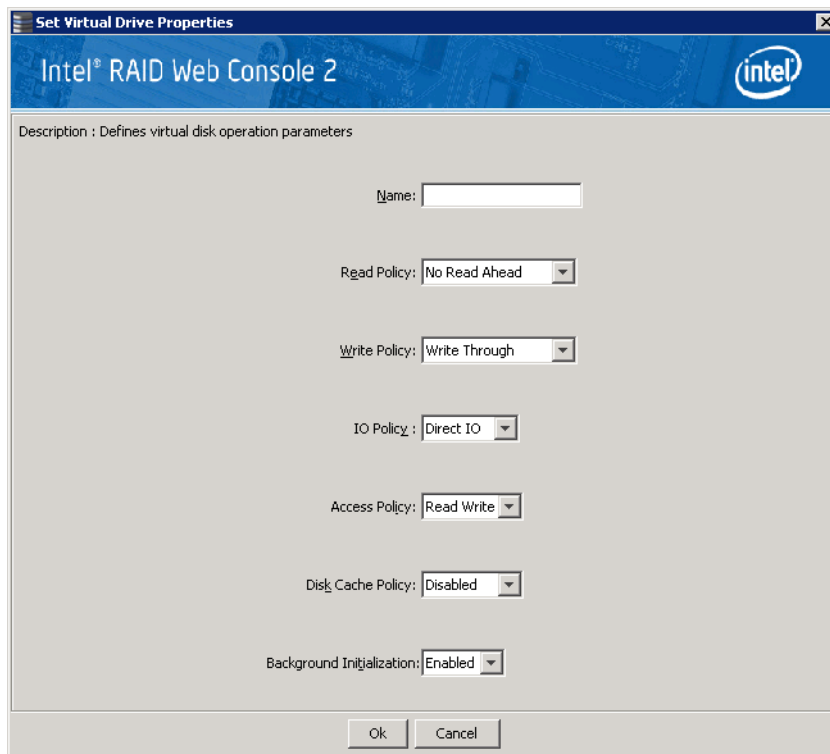

Figure 76. Set Virtual Disk Properties
1. Select a virtual disk (or drive) icon in the left panel and then select **Go To** -> **Virtual Drive** -> **Set Virtual Drive Properties**. Alternatively, click the **Properties** panel and then click **Set Virtual Disk Properties**. Figure 76 shows the Set Virtual Disk Properties screen.